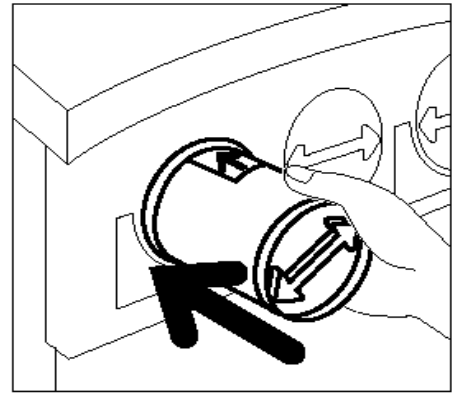

Figure 10: Aligning the Cartridge arrow and sliding the Cartridge into the copier/printer
- 7** Align the arrow on the cartridge with the raised arrow at the top of the opening, and slide the cartridge into the copier/printer, as illustrated in Figure 10.